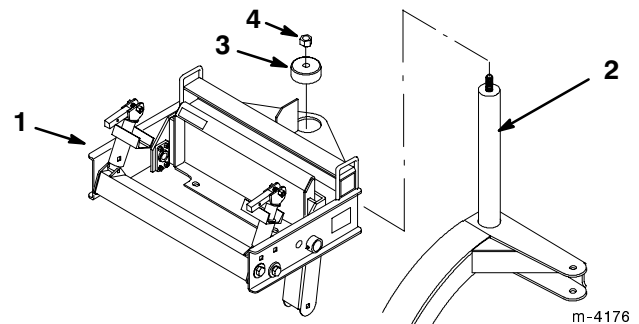

Figure 3
3. Lubricate the shaft on the top of the pivot frame (Fig. 3) with a corrosion resistant, calcium-sulphonate based grease.
4. Slide the attachment frame onto the shaft on the top of the pivot frame (Fig. 3).
5. Secure the attachment frame with a pivot cap and 3/4 in. (1.9 cm) nut (Fig. 3).